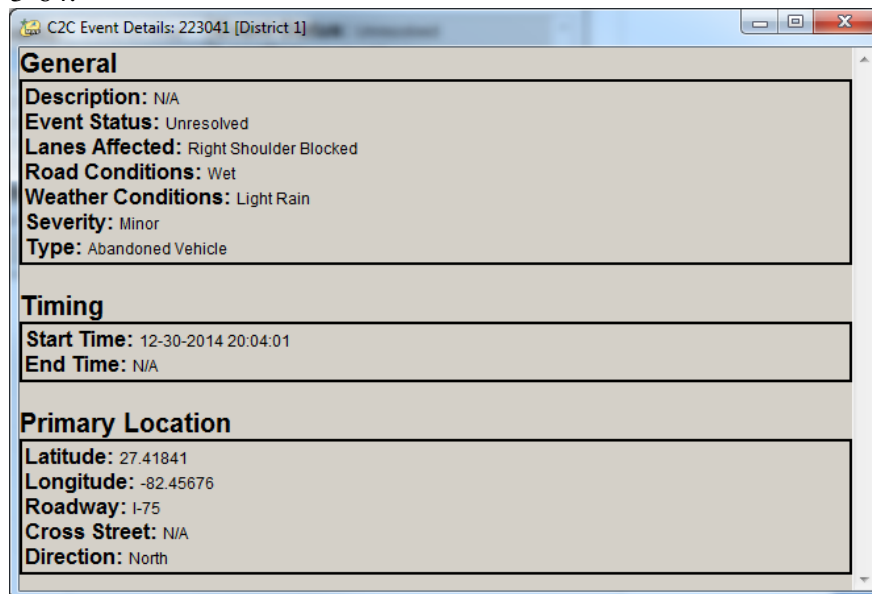

Figure 3-64 – C2C Event Details
- **View Details:** Selecting this button will display a detailed status dialog that is shown in Figure 3-64.